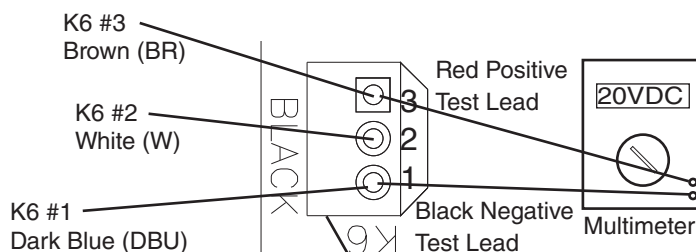

Fig. 1
- 3) **BC (infrared sensor) Power Supply (K6 connector):** CB supplies 20VDC to BC and BC green LED is on. **Diagnosis:** Check that BC green LED is on. If not, check for 20VDC between CB K6 #1 (DBU) and CB K6 #3 (BR). See Fig. 1. If 20VDC is not present, replace CB. If 20VDC is present, confirm that the yellow LED is not flashing or steady. If BC yellow LED is on or flashing, move ice away from lens. If no ice is present, clean the lens with a warm, clean damp cloth. If cleaning the lens does not work, replace BC (infrared sensor).